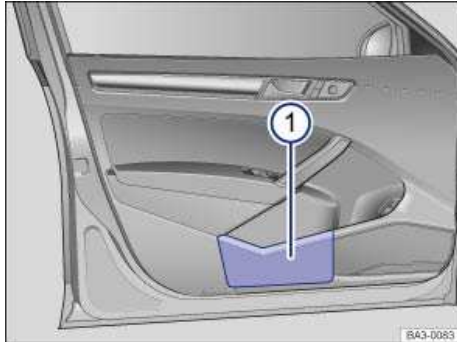

Fig. 134 In the driver door: Storage compartment.
There is a storage compartment in the driver door ⇒ fig. 134 (1). In the front passenger door a storage compartment can be found in the same position. At the rear of the compartment there is an area that might be used for storing a safety vest.